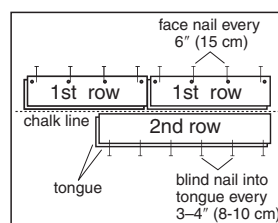

Figure 6
• Use the longest, straightest boards available for the first two rows. For random and alternate width products, use the widest plank for the first row. Align tongue of first row on chalk line. The groove should be facing the starting wall. Pre-drill 1/2" (13 mm) from back (groove) edge, 1"-2" (2.5-5 cm) from each end, and at 6" (15 cm) intervals when possible (Figure 6). Fasten using 4 or 6d finishing nails or 1" (2.5 cm) pneumatic finish nails/brads. Countersink the nails.